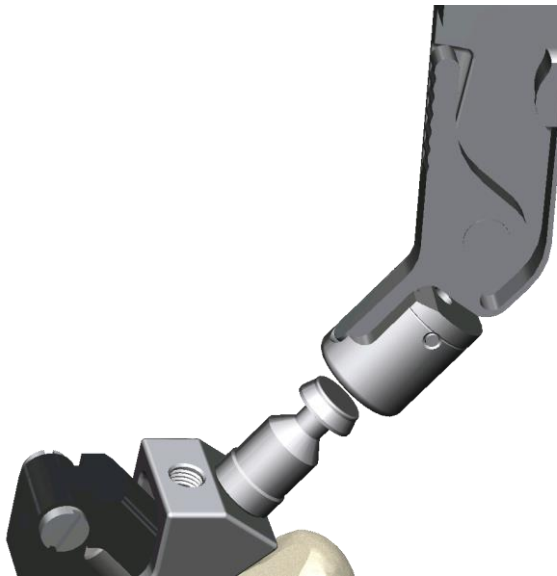
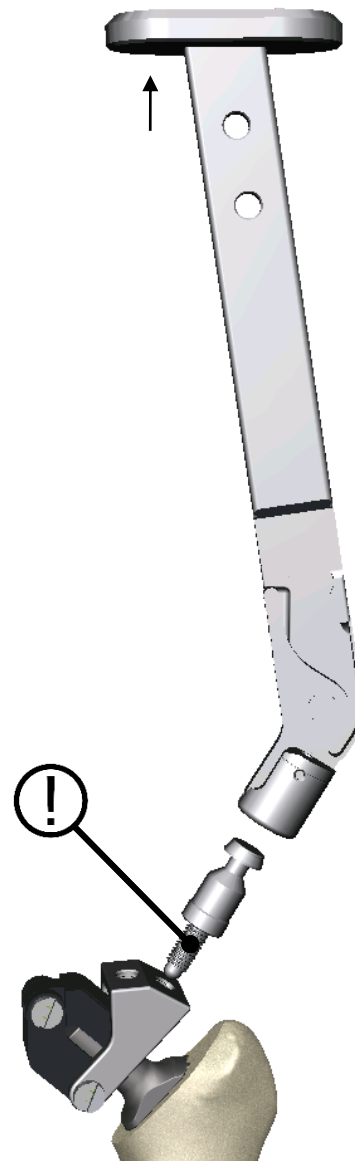

Figure 5: Stem-repositioner with screwed-in Handle Adapter Hook Coupling and Rasp Handle Standard Hook Coupling (detailed view)
Figure 6: Stem-repositioner with Rasp Handle Standard Hook Coupling and Handle Adapter Hook Coupling in necessary alignment to the implant
- Taking into account the axis of the stem, screw the *Handle Adapter Hook Coupling* into one of the two drill-holes of the *Stem-repositioner* until the cone is firmly in position (Figure 5).
- Connect the *Rasp Handle Standard Hook Coupling* to the *Handle Adapter Hook Coupling* (Figure 5 and Figure 6).